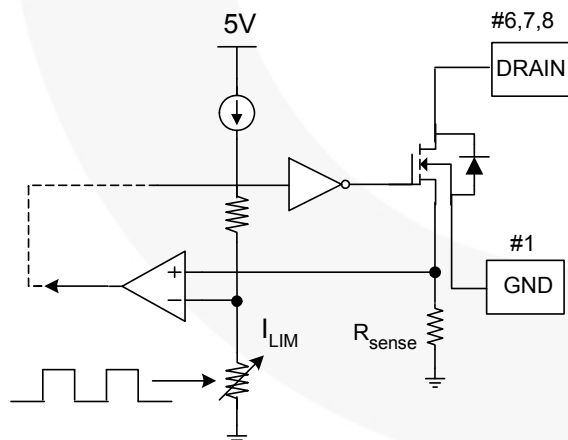

Figure 16. Soft-Start Function
5. Soft-Start: The FPS internal soft-start circuit slowly increases the SenseFET current after startup, as shown in Figure 16. The typical soft-start time is 10ms, where progressive increments of the SenseFET current are allowed during the startup phase. The pulse width to the power switching device is progressively increased to establish the correct working conditions for transformers, inductors, and capacitors. The voltage on the output capacitors is progressively increased to smoothly establish the required output voltage. This helps to prevent transformer saturation and reduces the stress on the secondary diode during startup.